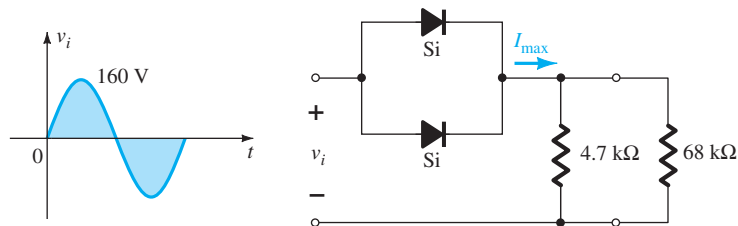

FIG. 2.172
- *27. a. Given $P_{max} = 14 \text{ mW}$ for each diode at Fig. 2.172, determine the maximum current rating of each diode (using the approximate equivalent model).